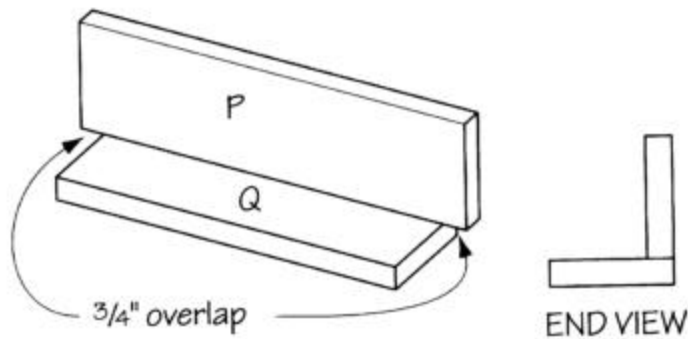

Figure 8
5. Cut eight long guides (P) from 1 x 4 pine, each measuring 12-1/2 inches long.
6. Cut eight short guides (Q) from 1 x 4 pine, each measuring 11 inches long.
7. Screw and glue one short guide (Q) to one long guide (P), as shown in *Figure 8*, leaving a 3/4-inch space at each end of the long guide (P). Note that the back face of the long guide (P) should be flush with the back edge of the short guide (Q). Fasten the pieces with glue and three 1-1/2-inch-long screws, spacing them evenly along the joint.
8. Repeat Step 7 seven more times, using the remaining seven long guides (P) and seven short guides (Q).